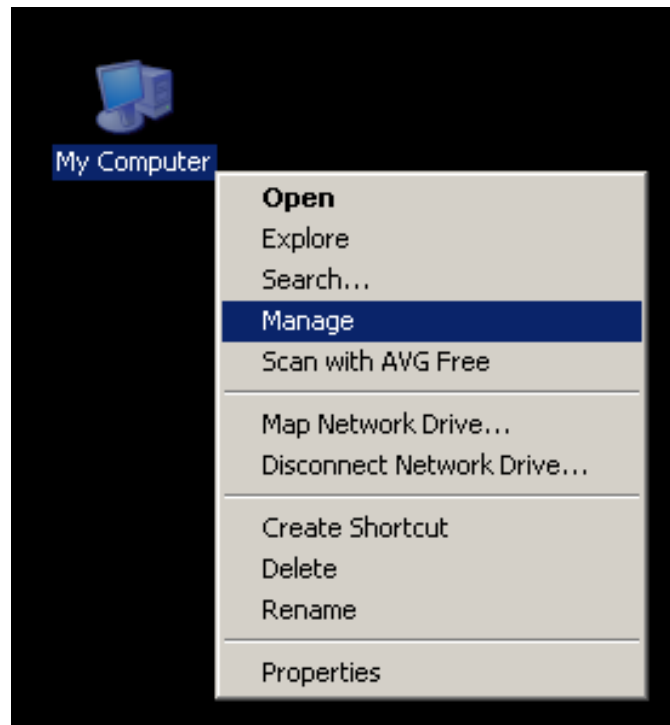

Figure 3-1: Manage My Computer
- 2) Click on the *Manage* menu item as shown in Figure 3-1.